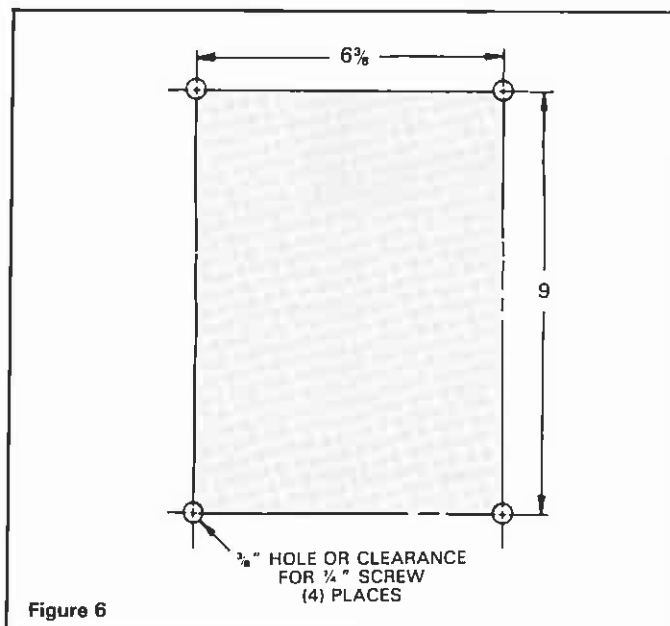

Figure 6
2. BCT-820E or 822E (See Figure 6). Using four (4) ¼" screws with nuts, mount the control to the surface or panel (BCT-822E models require a seal fitting, install the nipple and sealing fitting prior to surface mounting the control).